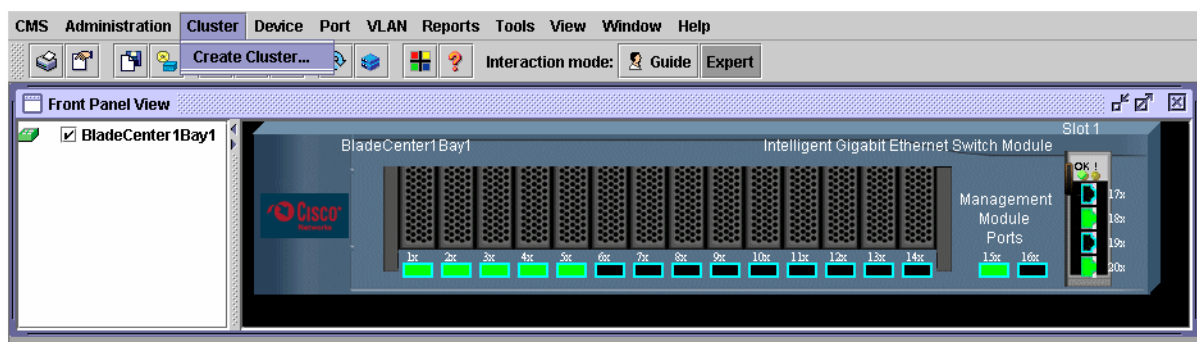

Figure 5-27 Cisco Cluster Management Suite window
3. Choose **Cluster** → **Create Cluster** (Figure 5-27).